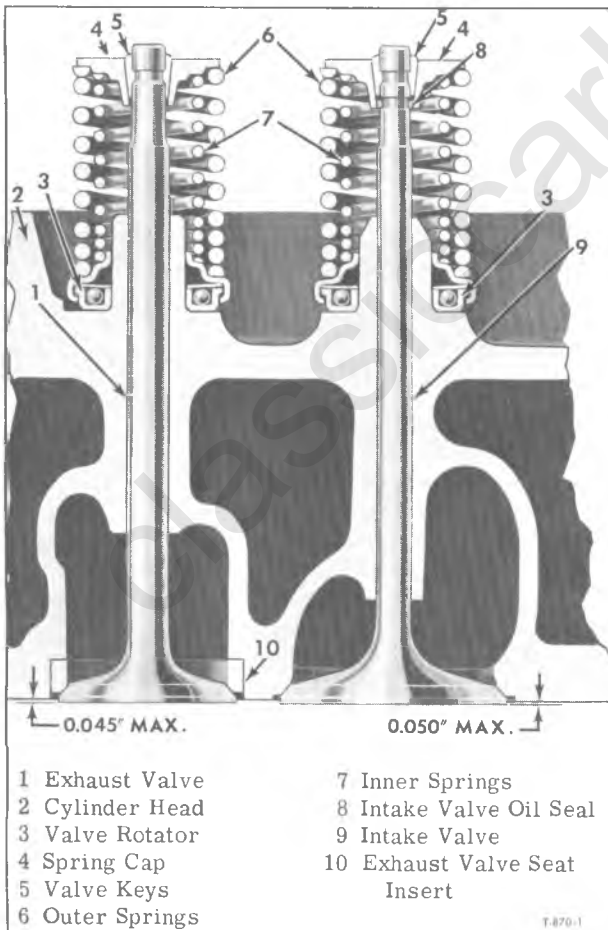

Figure 7—Cross Sectional View of Cylinder Head
5. Referring to figure 7 assemble rotator (if removed), inner and outer springs, and spring cap, then use compressor tool to force springs and cap down far enough to permit installation of valve keys.
6. On intake valve install oil seal (8, fig. 7). Place valve keys (5, fig. 7) in valve stem groove, then remove spring compressor.